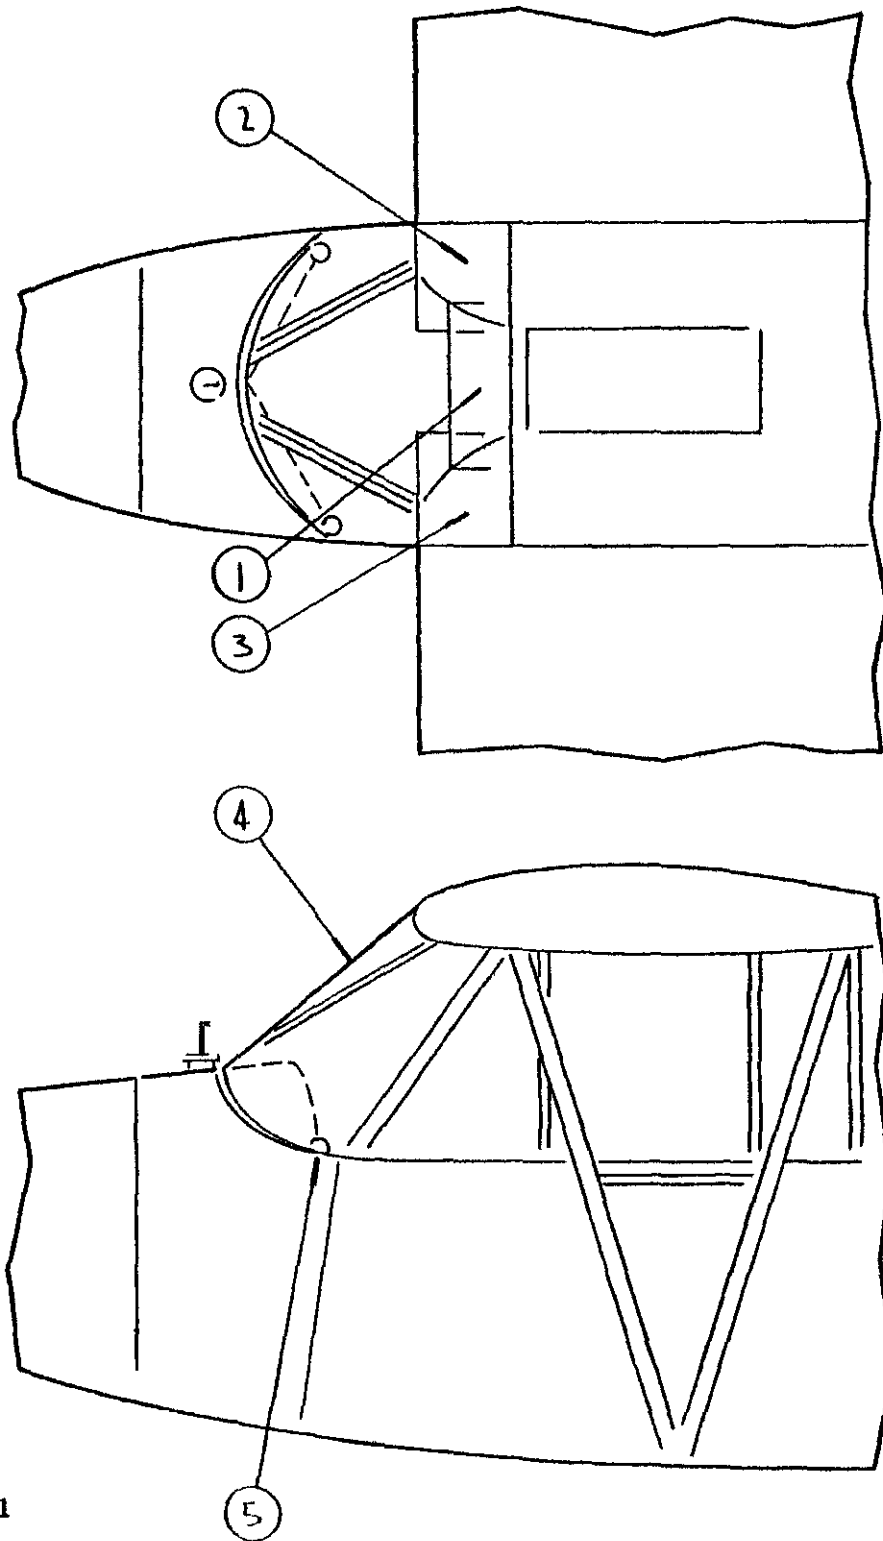
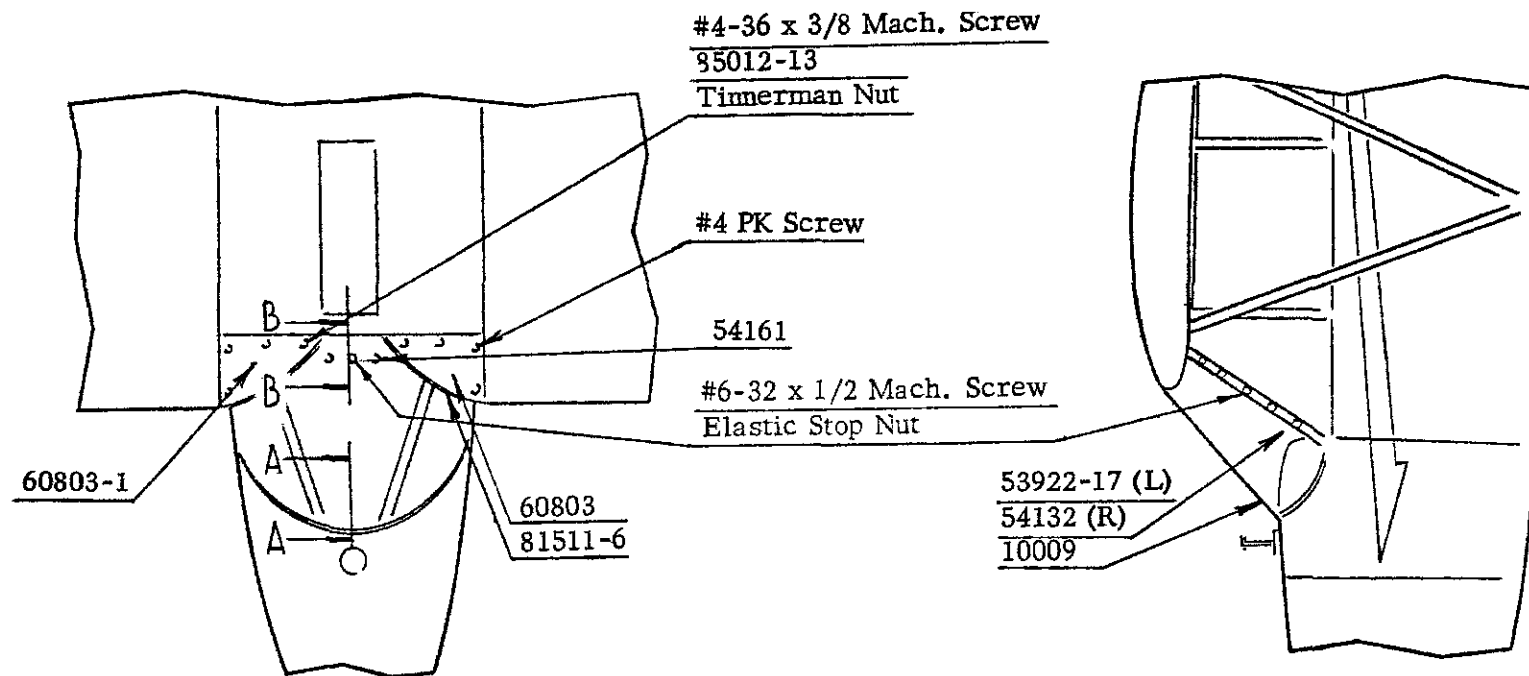

FIGURE 1
FIG. 2
1. Remove old windshield (4, Figure 1), eyebrow fairings (2, 3, Figure 1), and top center fairing (1, Figure 1).
2. Remove old windshield attachment tabs (5, Figure 1) from fuselage cowl.
3. Place new one-piece windshield, part number 10009-00, in position and attach at left and right sides. (See Figure 2.) On left side use new trimstrip, part number 53922-17, and attach with five (5) No. 6-32 x 1/2" machine screws and elastic stop nuts using old holes in superstructure.
4. Replace old top center fairing (1, Figure 1) and attach to windshield with three (3) No. 6-32 x 1/2" machine screws and elastic stop nuts. (1/4" holes in windshield). Use washers, part number 54161-00 and 85012-28, as shown in Figure 2.
5. Place attachment collar, part number 23942-00, in position and attach to fuselage cowl with eighteen (18) No. 6-32 x 3/8" machine screws and elastic stop nuts as shown in Figure 2. Place rubber beading No. 81511-10 over bottom edge of windshield to seal this attachment.
6. Fit eyebrow fairings, part numbers 60803-00 and 60803-01, in position (trim if necessary) and attach to top rear edge with two (2) No. 4-36 x 3/8" machine screws, washer, part number 85012-13, and Tinnerman nut. Attach to butt rib capstrip with five (5) No. 4 Parker screws. Place rubber beading, part number 81511-06, under edge of fairing where it contacts the windshield.